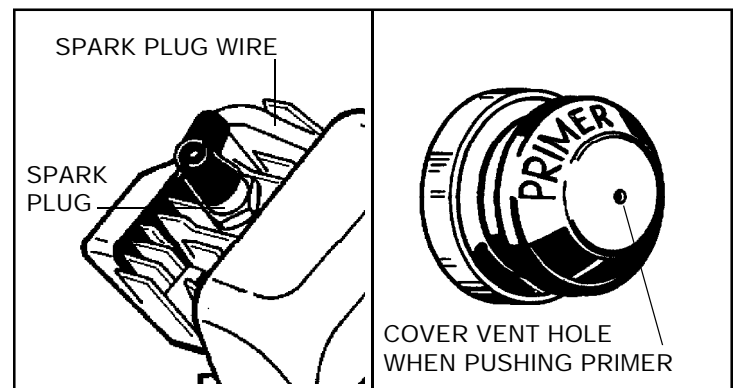

Figure 2
- B. Be sure spark plug wire is attached to spark plug (see Figure 2).
- B. Push primer 3-5 times (see Figure 2). Wait about two (2) seconds between each push. ALWAYS COVER "VENT HOLE" when pushing primer. See warm engine restart "NOTE" above.
- D. Push primer two or three times, making sure to cover vent hole when pushing (see Figure 2). In temperatures below 15°F (-10°C), additional priming may be required.